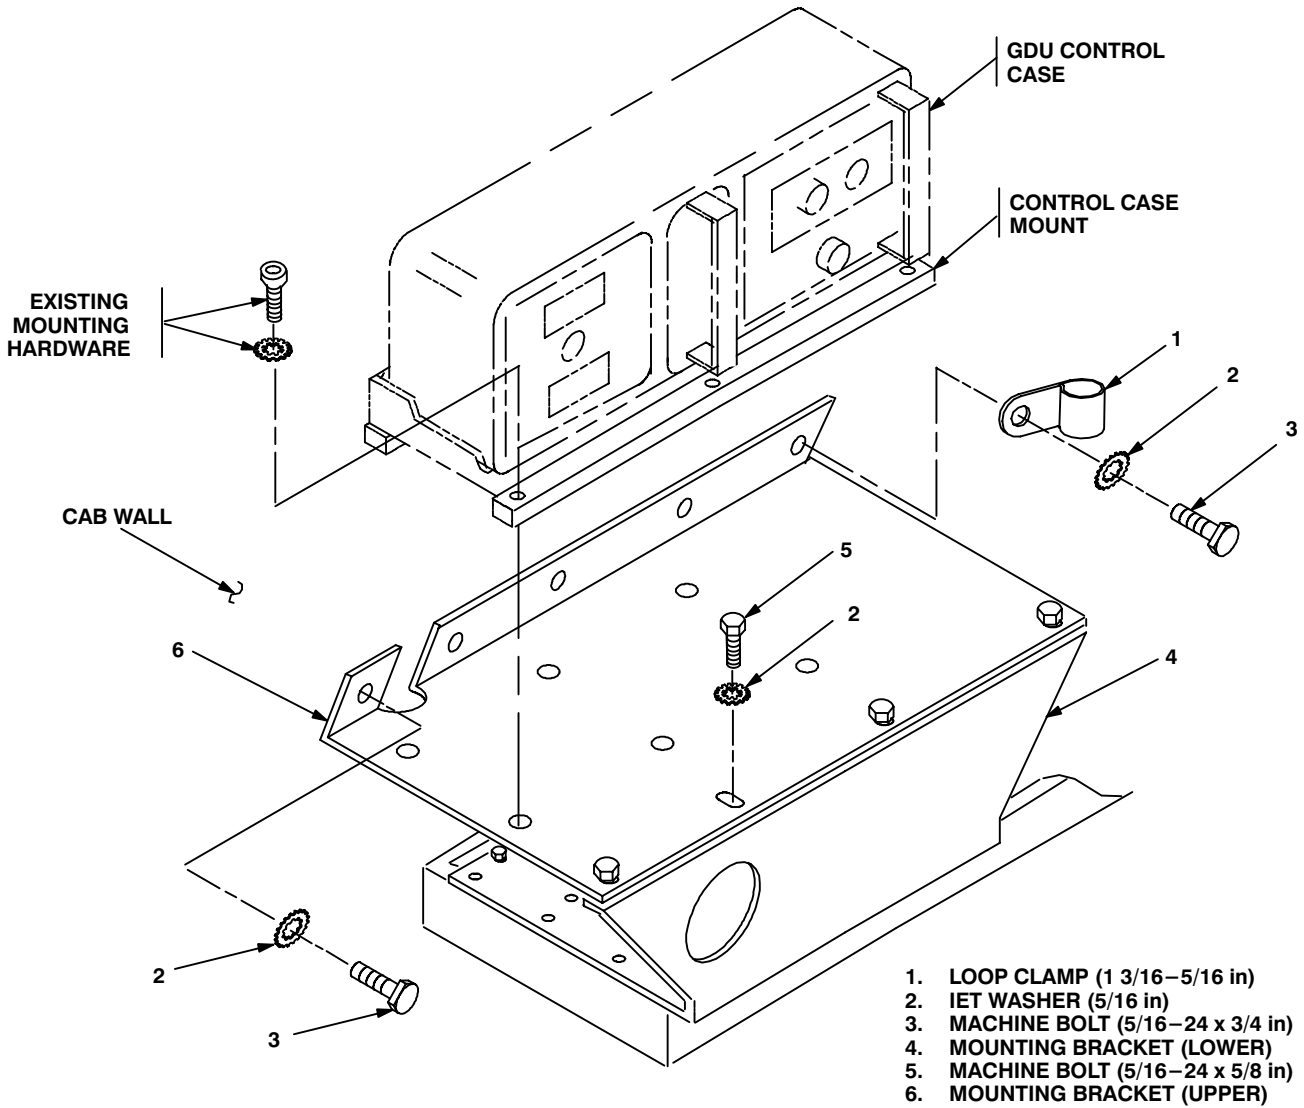

Figure 5-5 (3). Mounting Base Installation: Reinstalling Upper Mounting Bracket
| <p>r. Loop clamp (1), machine bolt (3) and internal/external-toothed (IET) washers (2)</p> <p>s. Four machine bolts (3) and four internal/external-toothed (IET) washers (2).</p> <p>t. GDU control case, control case mount and existing mounting hardware.</p> | <p>Install loosley to right rear hole in mounting bracket (6) and cab wall. See Figure 5-5(3).</p> <p>Install and secure to remaining holes in mounting bracket (6) and cab wall.</p> <p>Install and secure to mounting bracket (6).</p> |